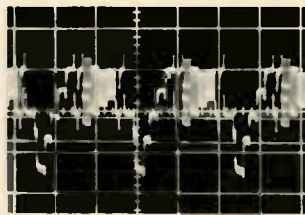

Figure 16 When the bar-sweep pattern is used with a normal RCA, the video detector waveform should look like this.
1. Check the Bar Sweep pattern at the video detector. It should appear similar to that shown in Figure 16. A lack of video signal may appear as an inoperative comb filter circuit.